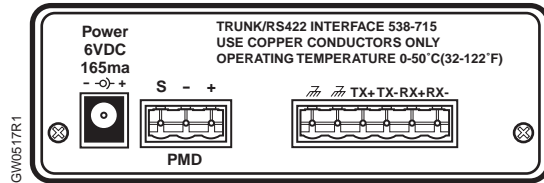

Figure 9. Rear Panel of the Trunk/RS-422 Interface
1. Attach the FLN 1 wires to the three-position trunk connector as indicated on the rear panel of the Trunk/RS-422 Interface (Figure 9). The shield should be taped back or connected as required to obtain a single-ended earth grounded shield.